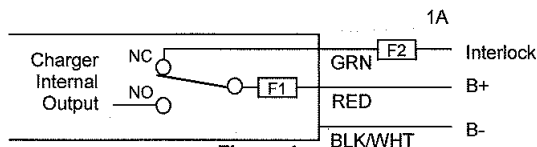

Figure 1
- The green wire outputs battery voltage when the charger is not plugged into AC to provide an interlock function – see Fig. 1. If used, a user-supplied 1A fast-blow external fuse must be installed inline to prevent damage. Shorting or drawing more than 1A may damage charger and void the warranty.